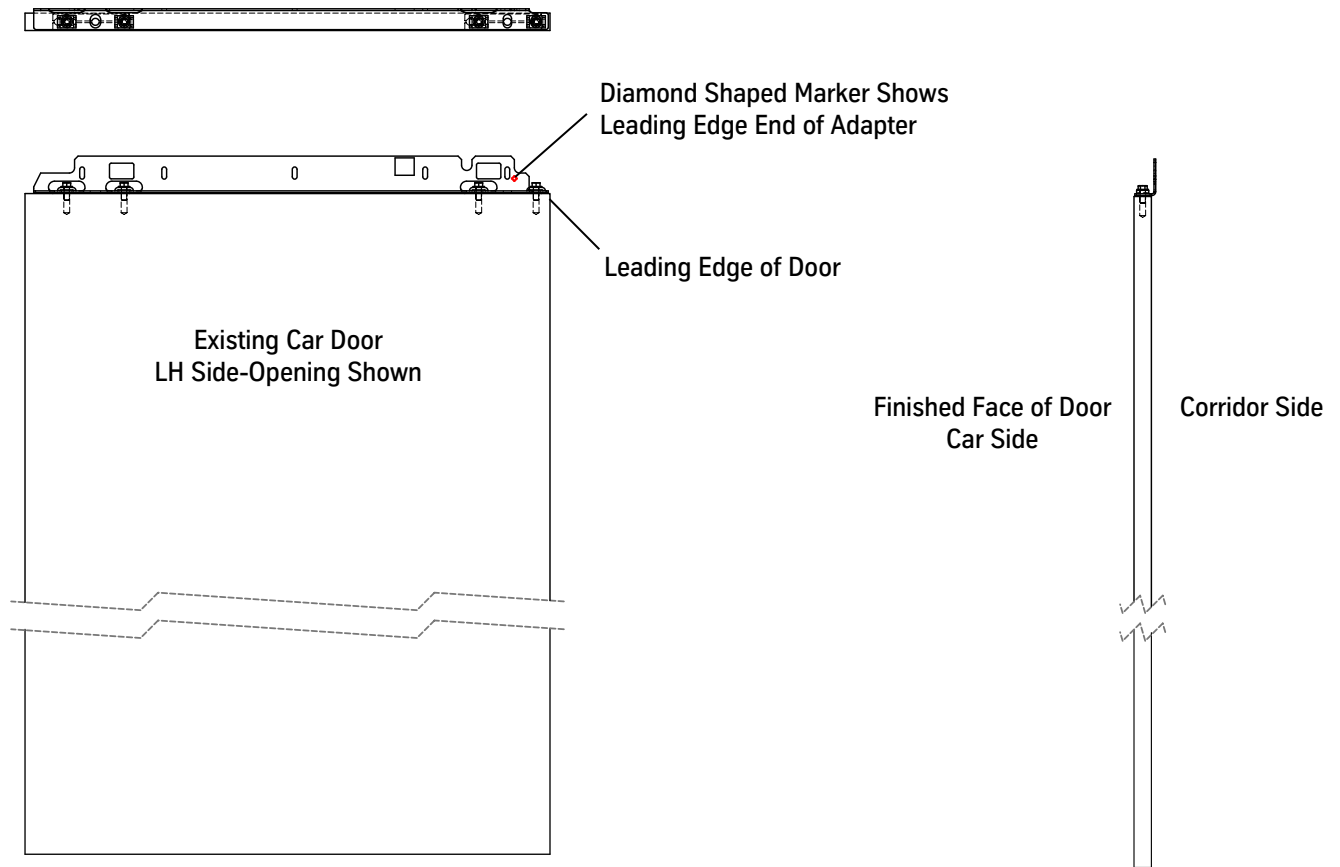

Figure 40 - Assemble and Align Door Panel and Angle (1 of 2)
2. Assemble the door panel and angle, and align the angle to be parallel to the door. See Figure 40 below and Figure 41 on page 50.